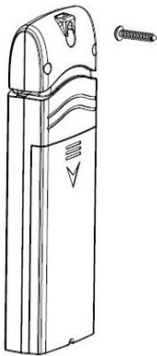

Figure 10
1. Use a screw or nail to affix the remote sensor to the wall, as shown in Figure 10